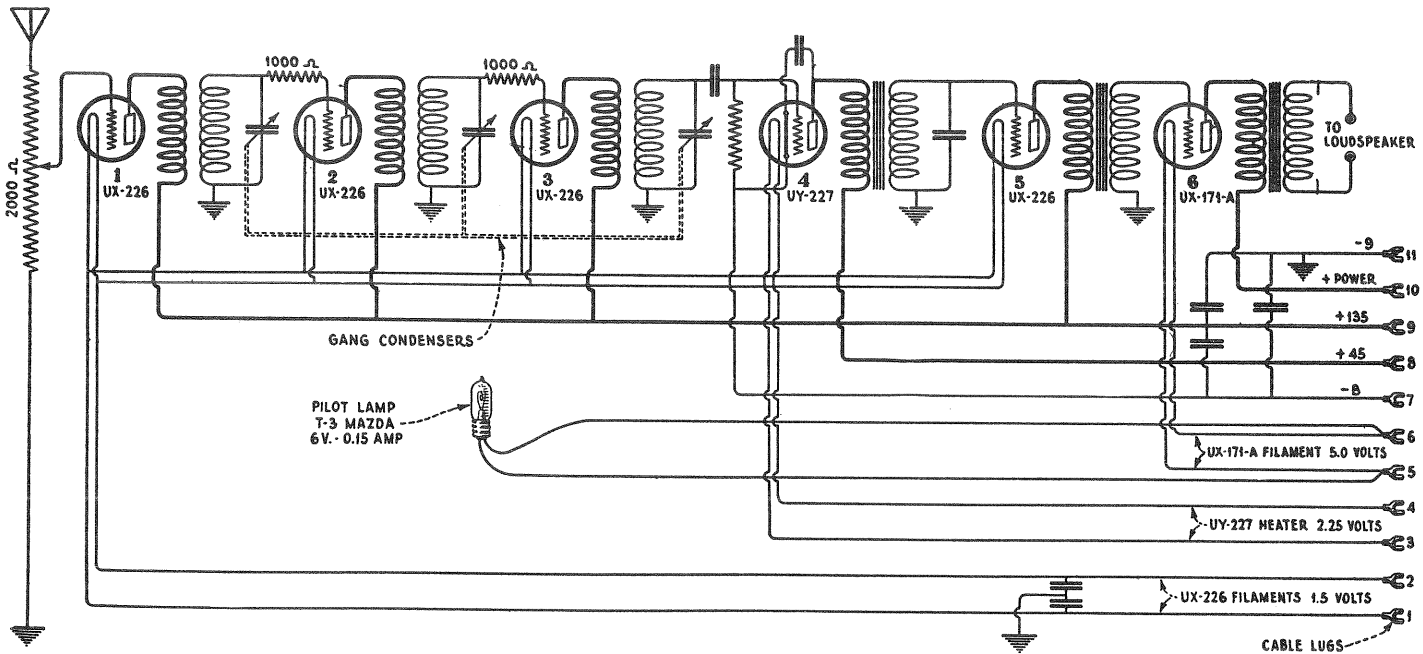

Figure 4—Schematic circuit diagram of receiver assembly.
The following principles are incorporated in the circuit design of Radiola 17 (Figure 4 and 4A.)
- (1) Defective grid resistor in second or third R. F. stages. The resistors may be checked by means of a resistance bridge, or the voltmeter ammeter method described below. Figure 4 shows the correct value of these resistors.
- (2) Excessive filament voltage. Adjust line switch to high position.
- (3) Excessive plate voltage. This may be caused by a defective 1200-ohm resistor in UX-226 plate supply line.
- (4) Antenna lead not in proper position. The correct position is between the A. F. transformer assembly and the frame.
- (5) Open ground connection. Make repair.
- (6) High resistance ground. Connect the ground lead to a cold water pipe, a hot water or steam radiator or both. If these are not available connect to several other grounds until a fairly low resistance ground is obtained.
- (7) Open—9 volt bias lead (black with green tracer). Make repair.
- (8) Open ground lead in set. Any of the several grounding leads in the Receiver and S. P. U. Assembly being open may cause oscillation. Test for open connections and make repair.
- (9) Antenna and ground leads reversed, either at their point of connection to the volume control or outside of the set. Connect properly.